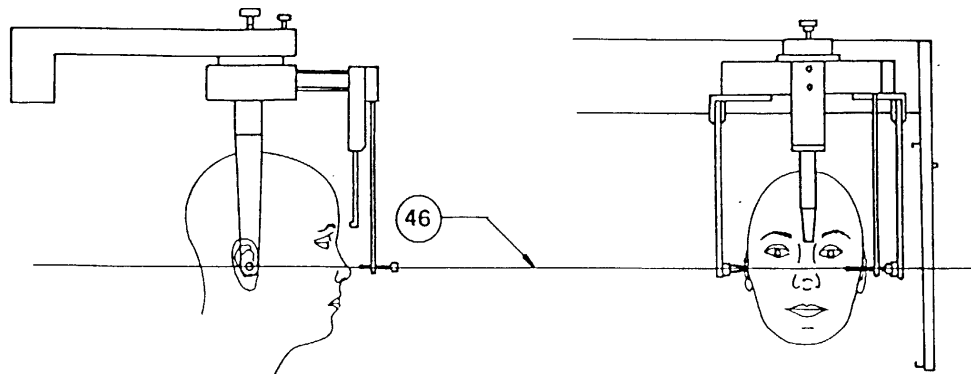

Figure 6
6. Fasten the patient's head between the rods so that the points enter the auricular opening (Figure 6).
7. Bring up the nose-rest **54** and adjust the patient's Frankfurt plane (plane passing through the auricular openings and the lower part of the orbital cavity) according to the plane defined by the centre points **58** and the alignment rod **55** when the latter is fully downward (Figure 6).